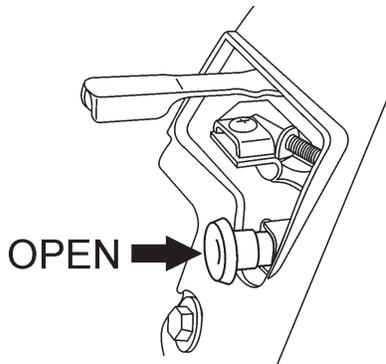

Figure 33. Choke Lever (Open Position)
4. If operating the SP2 saw in *cold weather conditions*, skip this step and proceed to step 5. Place the **Choke Lever** (Figure 33) in the **OPEN** position. Skip to step 6.